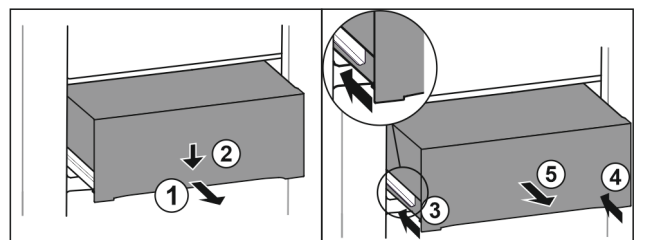

Fig. 146
- ▶ Pull out drawer half-way. Fig. 146 (1)
- ▶ Push the drawer down at the front. Fig. 146 (2)
- ▶ Push the left rail in by about 2 cm. Fig. 146 (3)
- ▶ Push the right rail in by about 2 cm. Fig. 146 (4)
- ▶ Remove drawer to the front. Fig. 146 (5)